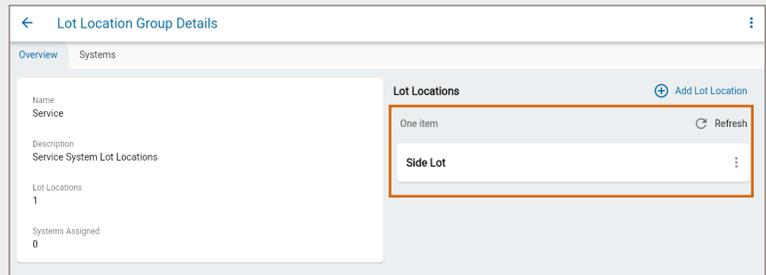

Fig. 244 – Lot Location Details Group screen with items list indicated
4. From the items list, select the lot location you wish to create a zone for, as shown in Fig. 244.